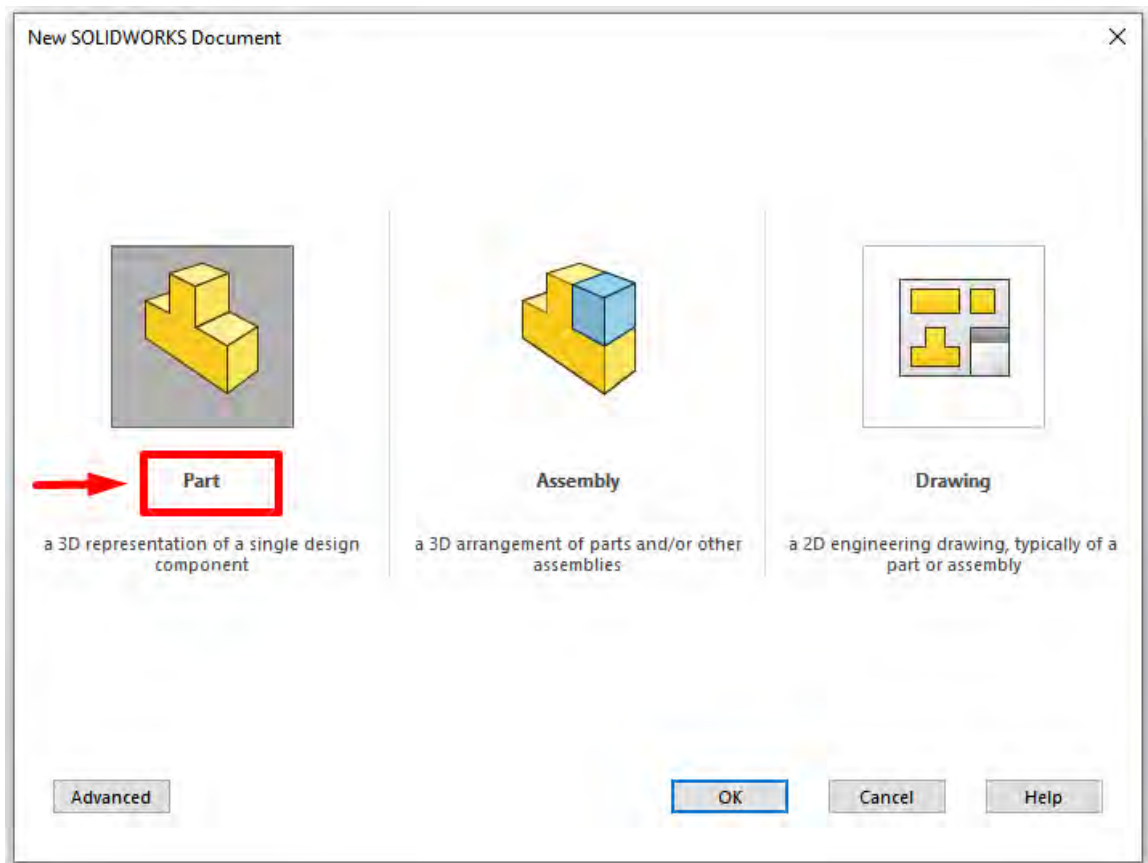

Fig. 1
1. Start SolidWorks and select the New → **Part command** (Figure 1).